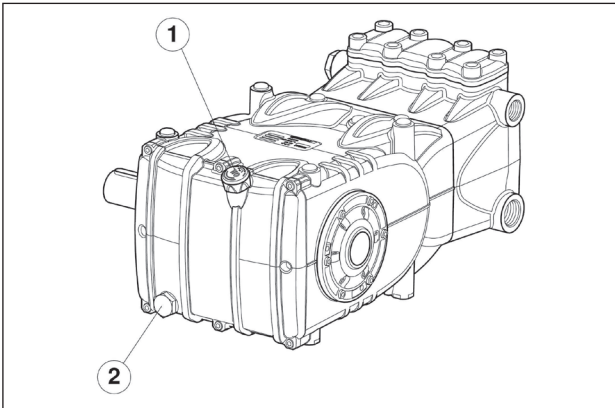

Fig. 1
To remove oil, you must remove: the oil dipstick, pos. ① and then the plug pos. ②, (Fig. 1).